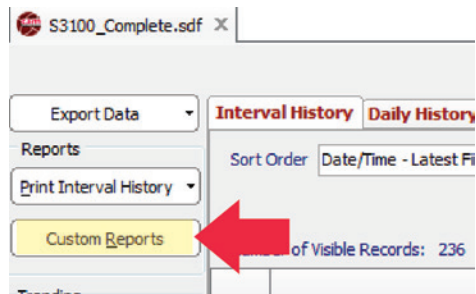
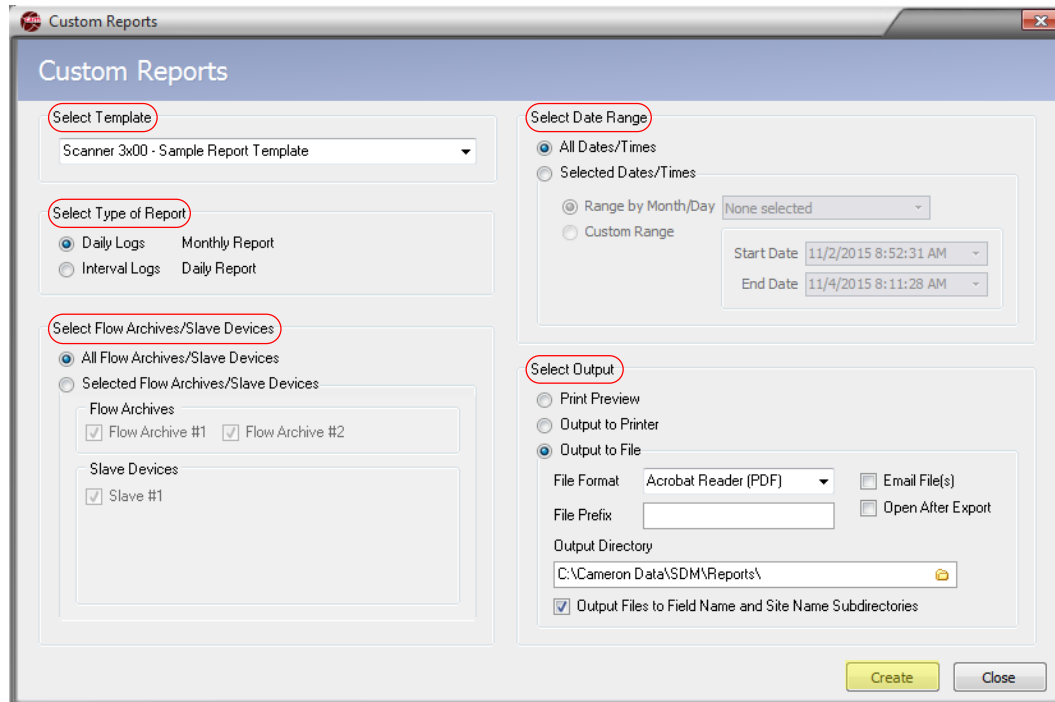

Figure 4.17—Custom Reports button on main screen
Figure 4.18—Custom Reports dialog
1. Click on the **Custom Reports** button on the left side of the main screen (Figure 4.17, page 55). The *Custom Reports* dialog (Figure 4.18, page 55) will appear, from which the final look of the report can be defined.